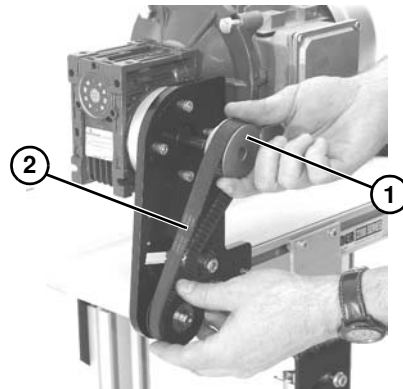

Figure 17
If drive pulley (**Figure 17, item 1**) is replaced, wrap timing belt around driven pulley and complete step 3.
3. Loosen drive pulley set screws on drive pulley (**Figure 17, item 1**). Remove drive pulley and timing belt (**Figure 17, item 2**).